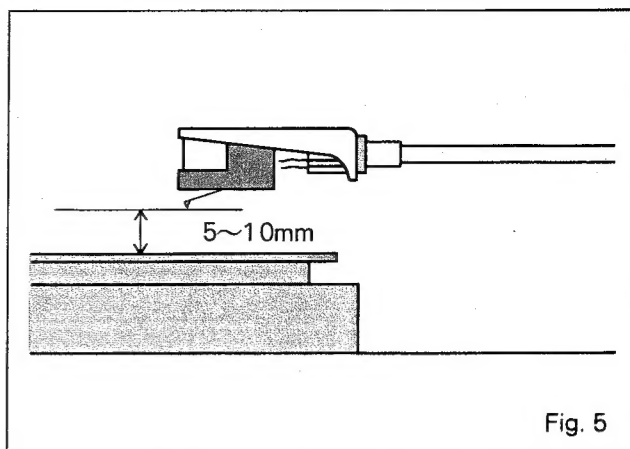
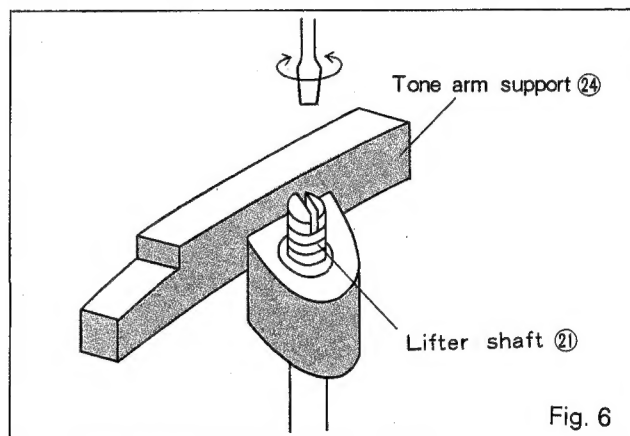

Fig. 5
Fig. 6
Adjust the height from the record surface to the stylus point in the following order so that it conforms to the dimensions shown in Fig. 5 during auto return:
- If the gap is not within the dimensions specified in Fig. 5, turn the lifter shaft as shown in Fig. 6, and adjust the height referring to the below.